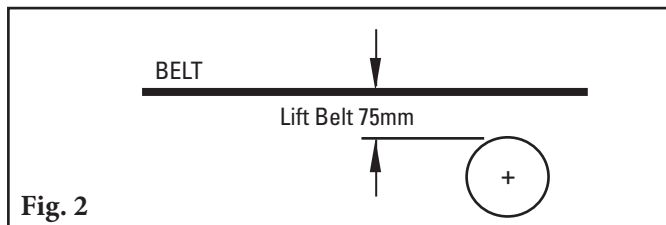

Fig. 2
- 2. Lift the belt** approximately 75mm where the trainer will be installed. Remove existing idler (if applicable) (Fig. 2). **NOTE:** If the conveyor has disc idlers, replace one idler with a standard idler before and after the location where the trainer will be installed.